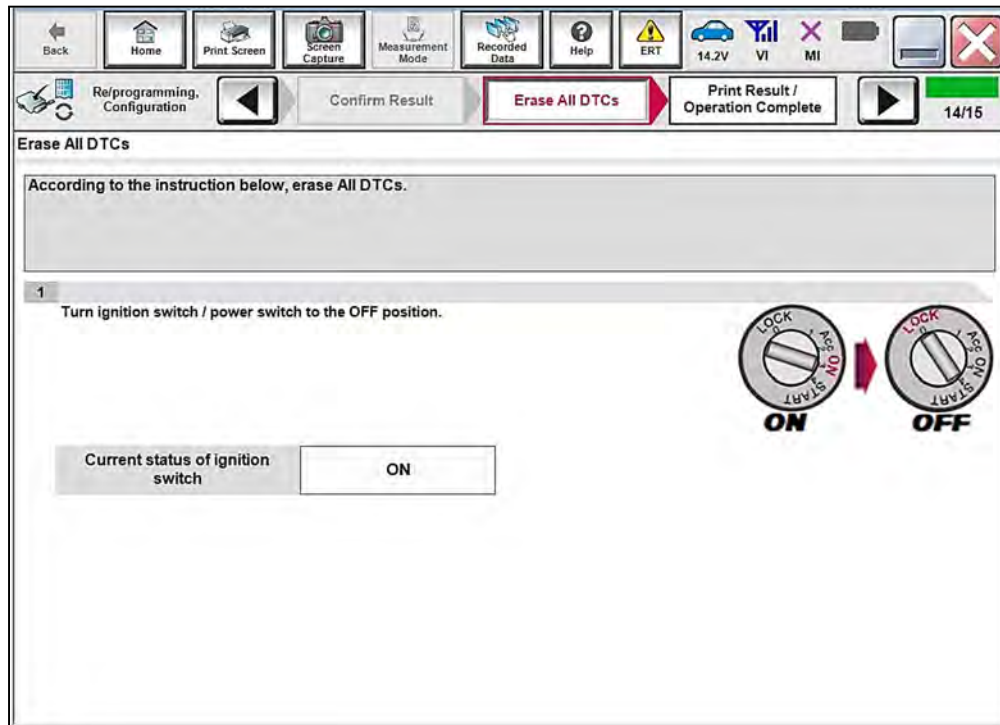
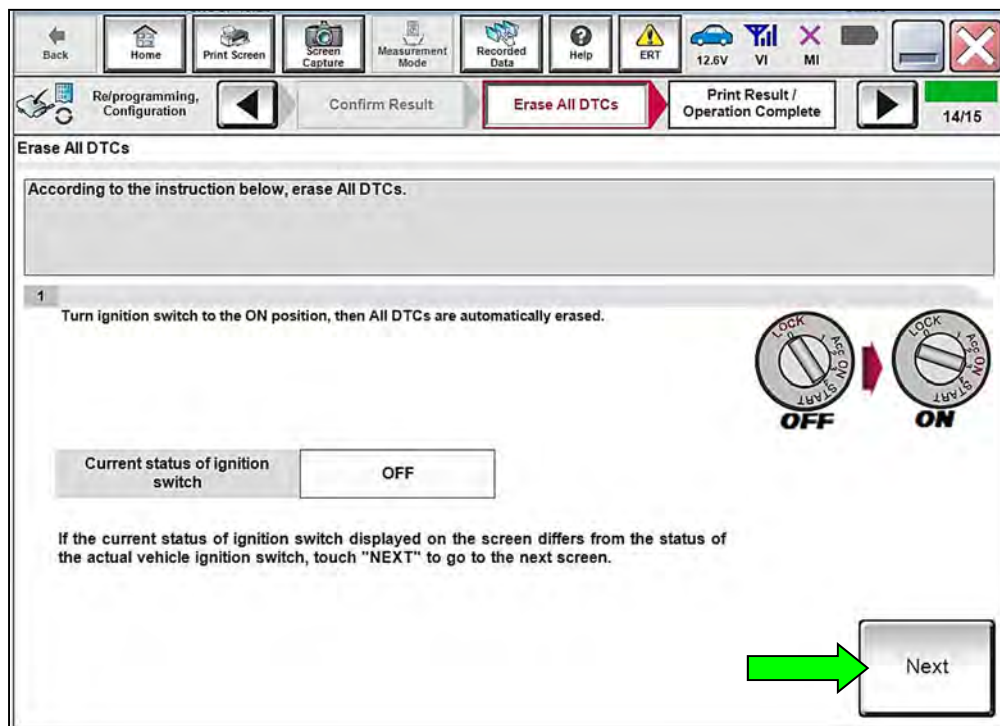

Figure 16
Figure 17
a. Follow the on-screen instructions as shown in Figure 16 and Figure 17.